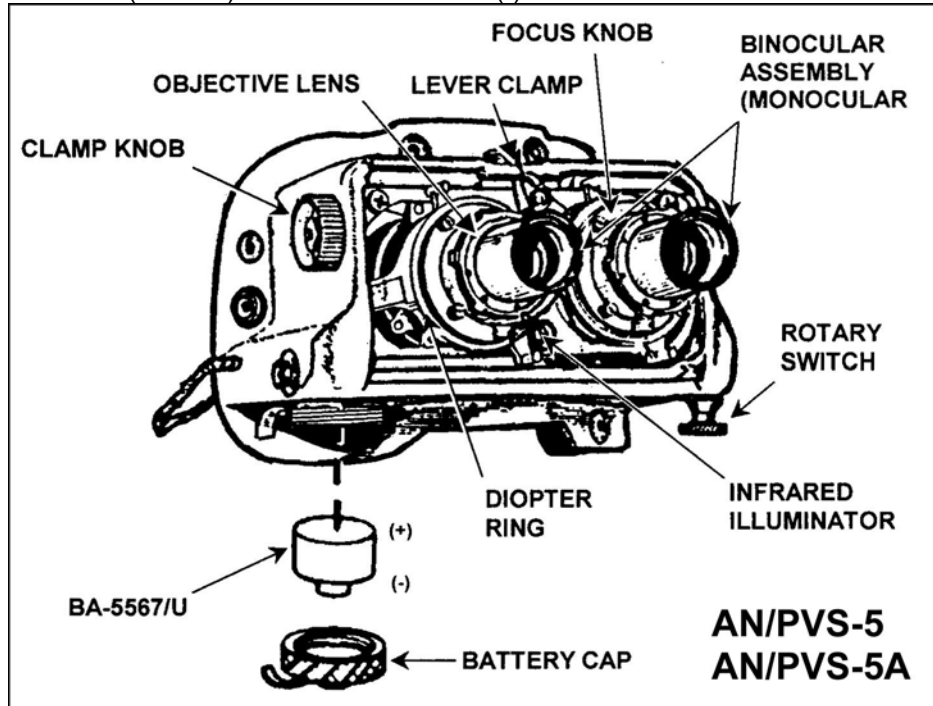

Figure 2. AN/PVS-5 and AN/PVS-5A goggles.
d. Install the BA-5567/U (lithium) battery or BA-3058/U (alkaline) battery (Figures 2, 3, and 4).
(1) Remove the BA-5567/U (lithium) battery cap or BA-3058/U (alkaline) battery cap(s).
(2) Insert the BA-5567/U (lithium) battery with the recessed (+) side in first. Insert the BA-3058/U (alkaline) batteries with the flat (-) side in first.